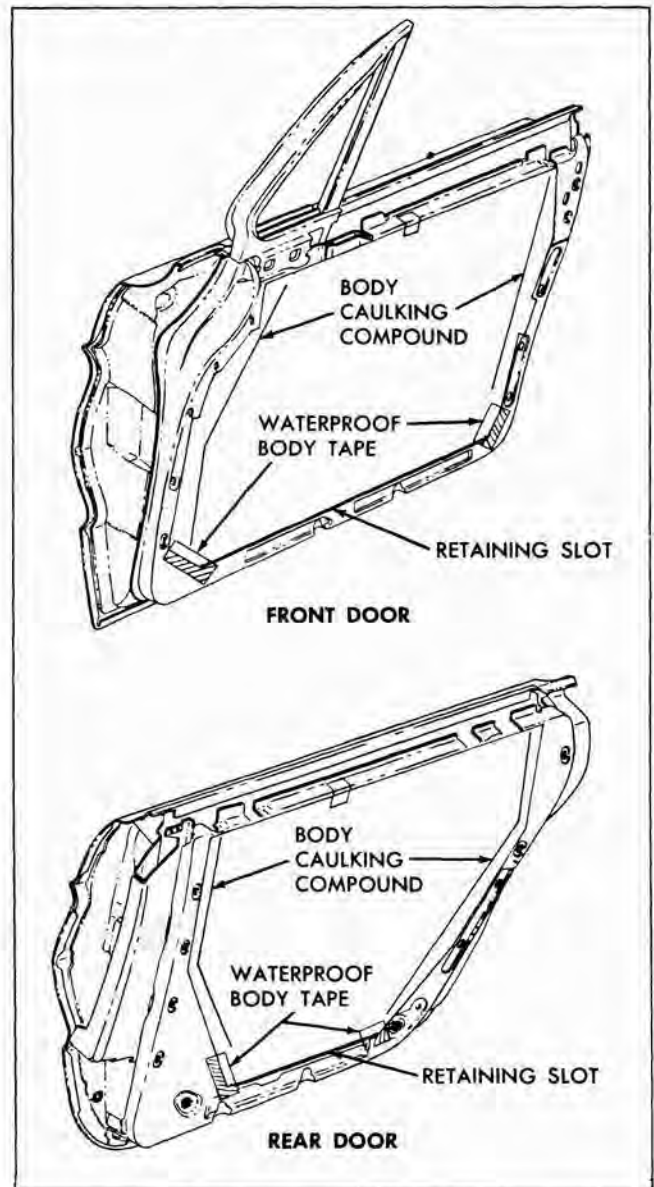

Fig. 3-8 Door Water Deflector Sealing
2. Remove strips of waterproof body tape securing lower corners of water deflector (Fig. 3-8).
2. If new water deflector is to be installed, use old water deflector as a template, trim new deflector to proper size and cut holes for door inside hardware. If old sealer does not effect a satisfactory seal, clean off old cement from door inner panel and apply a continuous bead of body caulking compound (approximately 3/16" diameter) to door inner panel along line contacted by front and rear edges of water deflector (Fig. 3-8).
5. Seal lower corners of deflector with 2 or 2-1/2" waterproof body sealing tape (Fig. 3-8).